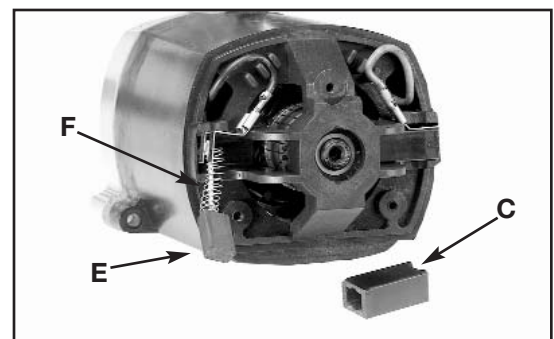

Fig. 43
3. Fig. 43 illustrates one of the brushes (E) removed from the holder (C). When the carbon on either brush (E) is worn to 3/16" in length or if either spring (F) or shunt wire is burned or damaged in any way, replace both brushes. If the brushes are found to be serviceable after removing, reinstall them in the same position as removed.